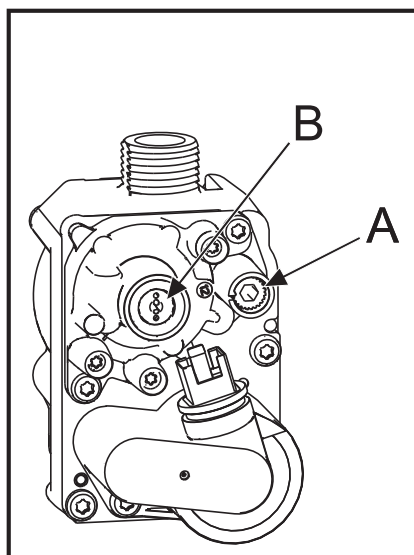

fig. 31 - Gas valve
3. Now adjust the **Throttle setting** (fig. 31 - screw **A**) until the CO2 is at the correct **SETTING LEVEL** (see table 4), confirm that the CO/CO2 ratio is within limits (clockwise to increase gas).
2. Now adjust the **offset pressure setting** (fig. 31 - cup **B**) until the CO2 is at the correct **SETTING LEVEL** (see table 5), confirm that the CO/CO2 ratio is within limits (clockwise to increase gas).